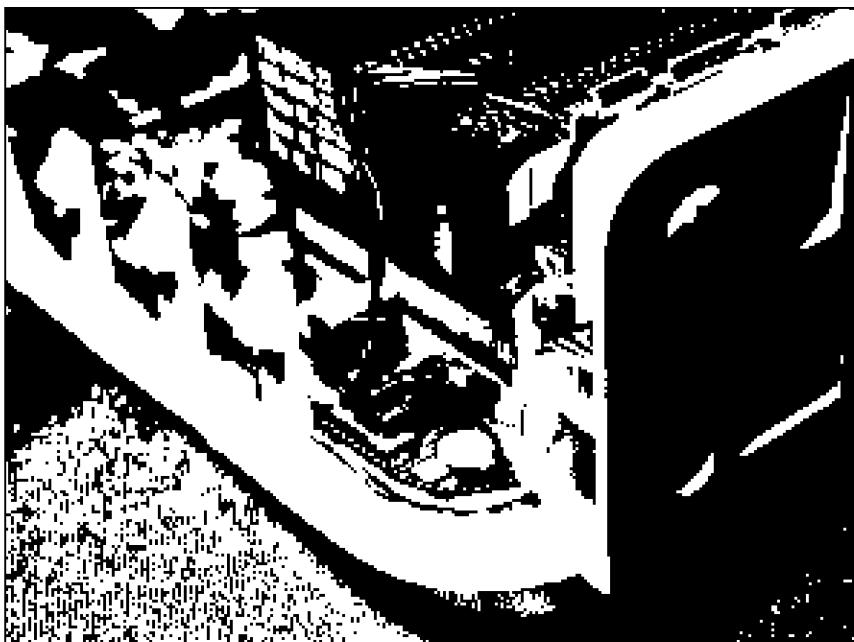

Figure 20-9:
7. Plug the LED power-on cable (shown in Figure 20-9) into the motherboard.